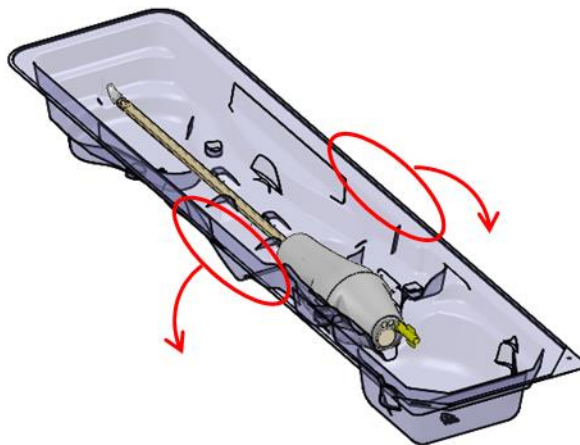

Figure 20: Releasing the UA from the packaging tray
4. **MRI Technologist:** While holding the UA packaging tray by the long edges of its perimeter, flex the tray to release the UA from its snap features (*Figure 20*).